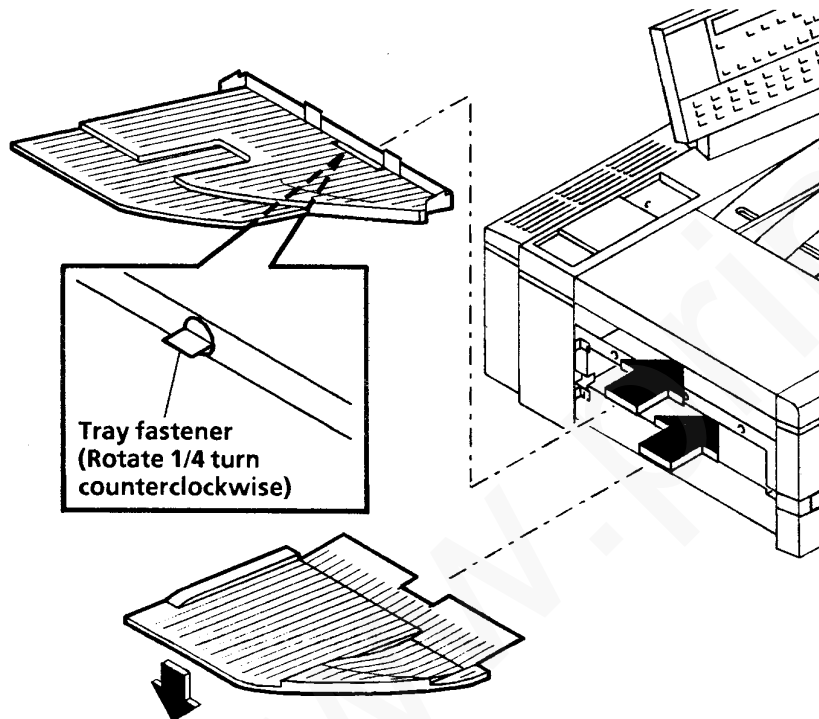

Figure 2. Install output trays
1. Install the document output tray (Figure 2).
2. Install the copy output tray (Figure 2).